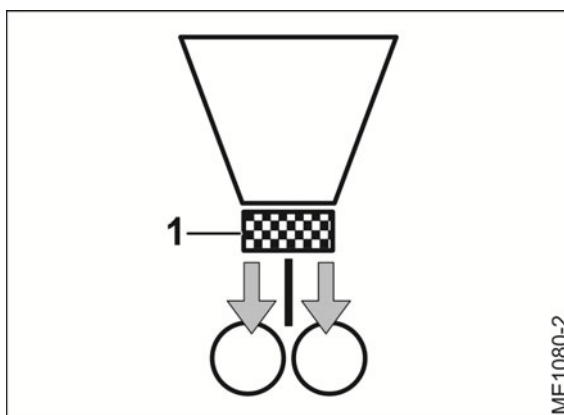

Fig. 91
- one metering unit (Fig. 91/1) supplies both distributor heads with seed or fertiliser at the same time.